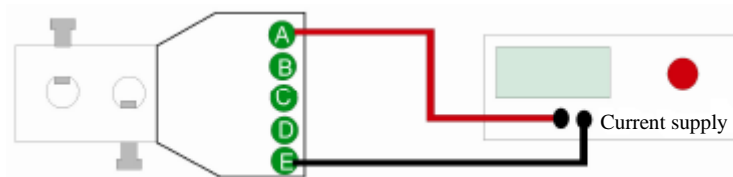

Figure 3.4. Top view of Main Unit and connection current supply to Main Unit
6. Connect current supply to the circuit (see Fig.3.4)